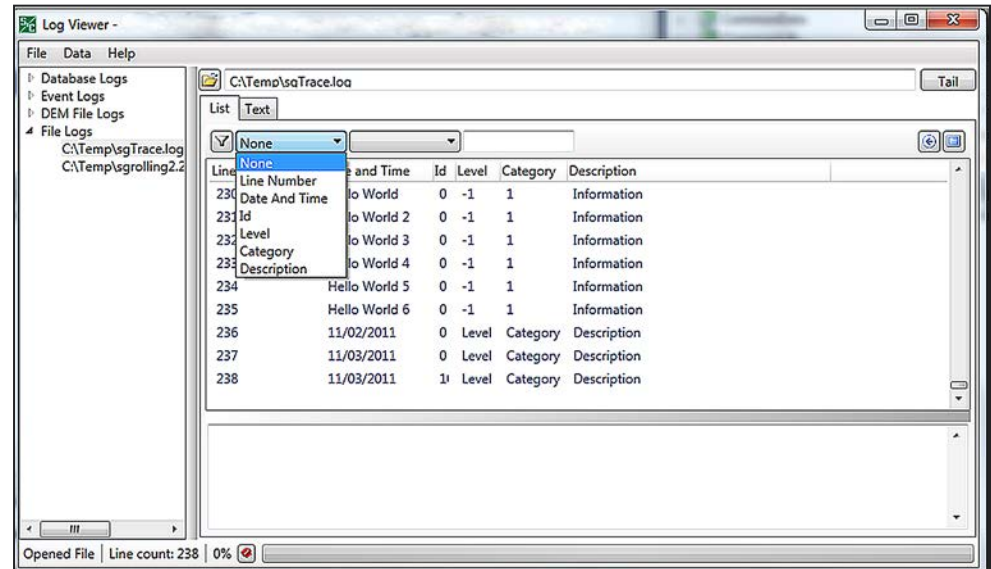

Figure 132. Selecting log filter type.
When a log file has been loaded into IntelliTeam Designer, the events can be filtered to group data. Select the parameter to be filtered and filter range. Then, click on the **Filter** button . See Figure 132.
STEP 7. Click on the **Filter** button: . See Figure 132 on page 125.